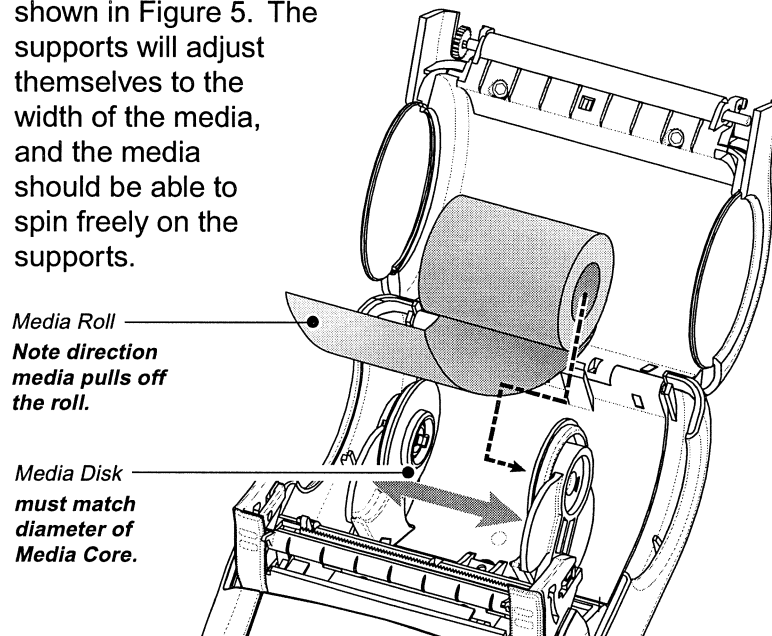

FIGURE 5
2. Refer to Figure 5. Load the media
- If the media support setting is correct, pull the media supports apart, insert the roll of media between them, and let the media supports close. Insure that the media pulls off the core in the direction shown in Figure 5. The supports will adjust themselves to the width of the media, and the media should be able to spin freely on the supports.